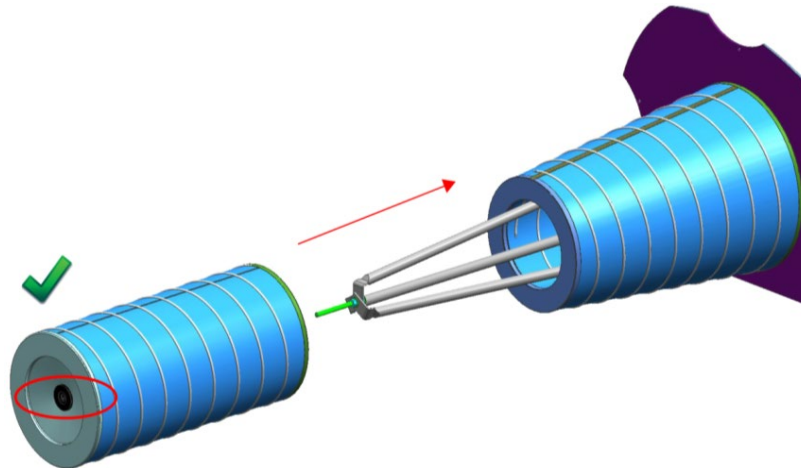

Figure 20: Installation of cylindrical filter element on conical filter element
- See fig.20
Ensure that gasket washer is still properly seated in the metal cap of the cylindrical filter element, as shown in fig.20